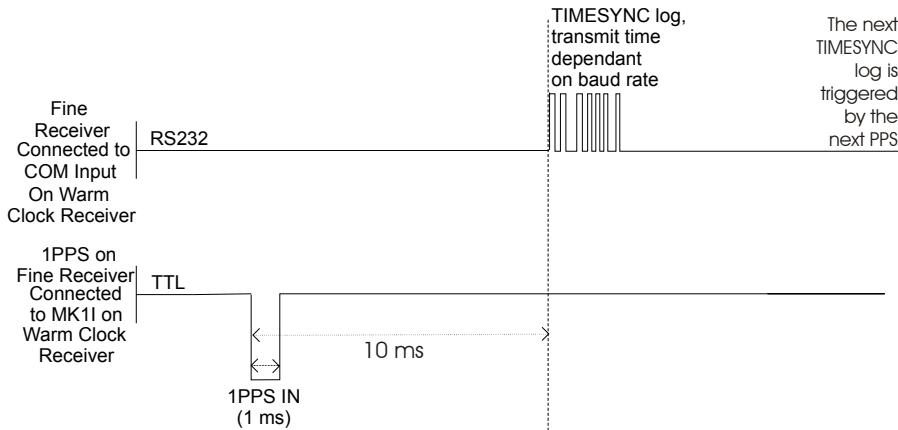

Figure 1: 1PPS Alignment
Figure 1 on *Page 51* shows the IPPS alignment between a Fine and a Cold Clock receiver. See also the TIMESYNC log on *Page 517* and the *Transfer Time Between Receivers* section in the *OEMV Family Installation and Operation User Manual*.
- b. It is presumed that the TIMESYNC log, see *Page 517*, was issued by a Primary GPS receiver within 1000 ms, but not less than 800 ms, of the last 1PPS event, see *Figure 1, 1PPS Alignment on Page 51*. Refer also to the *Transfer Time Between Receivers* section in the *OEMV Family Installation and Operation User Manual*.